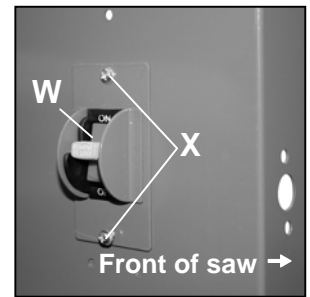

Figure 12
**NOTE: Be sure ON is at the top.** (Figure 12)